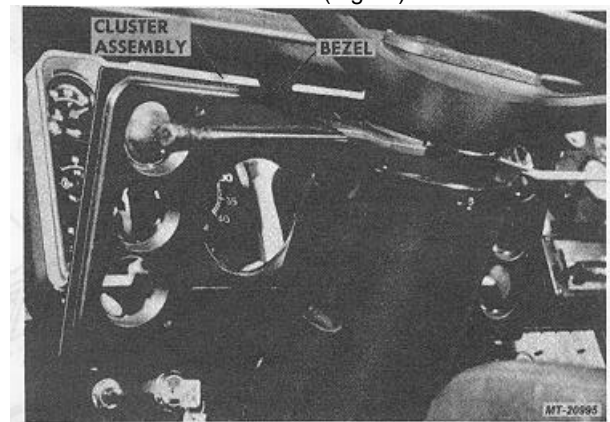

Fig. 6 Removing Instrument Cluster Bezel
1. With the four cluster mounting screws removed, remove a fifth mounting screw front center of cluster bezel and detach bezel (Fig. 6).